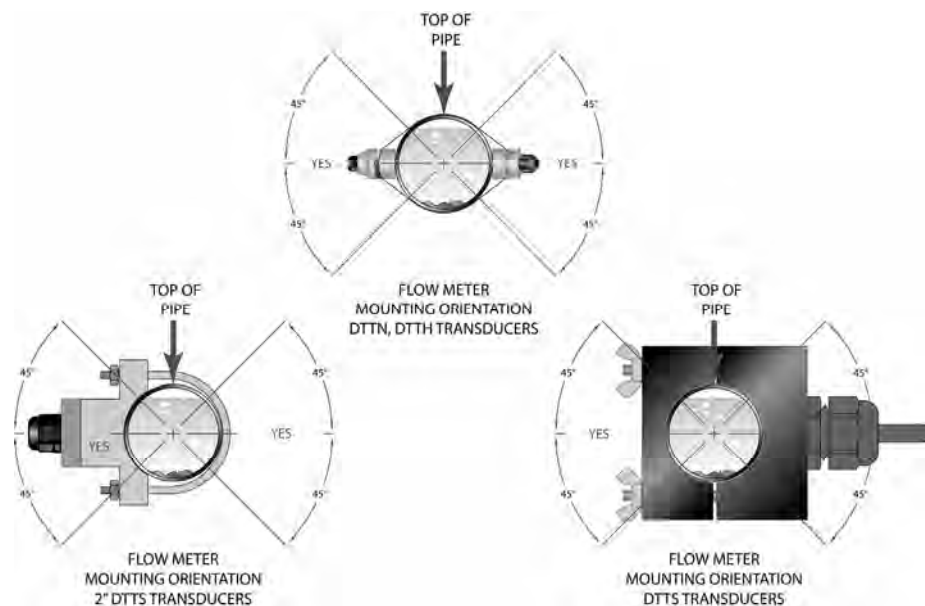

Figure 2.1
The DTTN and DTTH transducers must be properly oriented on the pipe to provide optimum reliability and performance. On horizontal pipes, when Z-Mount is required, the transducers should be mounted 180 radial degrees from one another and at least 45 degrees from the top-dead-center and bottom-dead-center of the pipe. See **Figure 2.1**. On vertical pipes the orientation does not apply.
DTTS transducers should be mounted with the cable exiting within ± 45 degrees of the side of a horizontal pipe. See **Figure 2.1**. On vertical pipes the orientation does not apply.
2. On horizontal pipes, mount the transducer in an orientation such that the cable exits at $\pm 45^\circ$ from the side of the pipe. Do not mount with the cable exiting on either the top or bottom of the pipe. On vertical pipes the orientation does not matter. See **Figure 2.1** on page 2.8.
3. Crease the paper at the fold line. Mark the crease. Place a mark on the pipe where one of the transducers will be located. See **Figure 2.1** on page 2.8 for acceptable radial orientations. Wrap the template back around the pipe, placing the beginning of the paper and one corner in the location of the mark. Move to the other side of the pipe and mark the pipe at the ends of the crease. Measure from the end of the crease (directly across the pipe from the first transducer location) the dimension derived in Step 2, Transducer Spacing. Mark this location on the pipe.